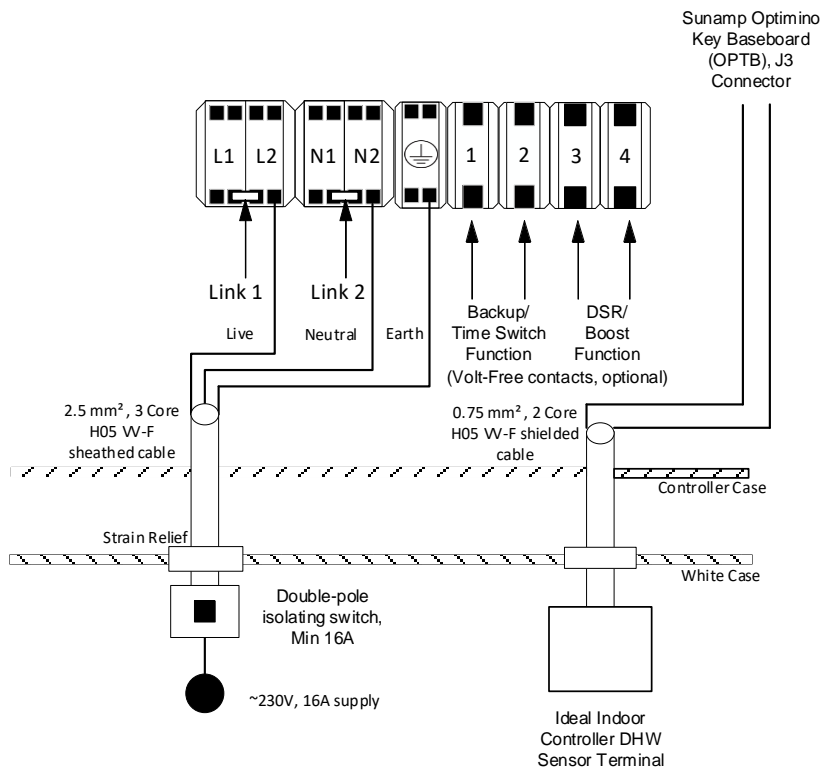

Figure IL.1 - Thermino xPlus with IL01 Optimino key
- Thermino xPlus with the “IL01” & “IL02” Optimino keys (D0084 – Section 6.4.2 for wiring instructions & Figures IL.1 & IL.2 below)
Using a 2-core shielded cable 0.75mm², the cable will act as a hot water heating tank sensor from the Sunamp Optimino Board (OPTB) – terminal J3 into the Ideal Indoor Controller DHW Sensor terminal (please refer to HP installation manual). Please run the wire into the heat battery appliance via the appliance case cabling grommets and then into the control box housing through the hole available. Secure the cables in terminals J3 on the Optimino Board; please see Figures IL.1 & IL.2 below for reference.